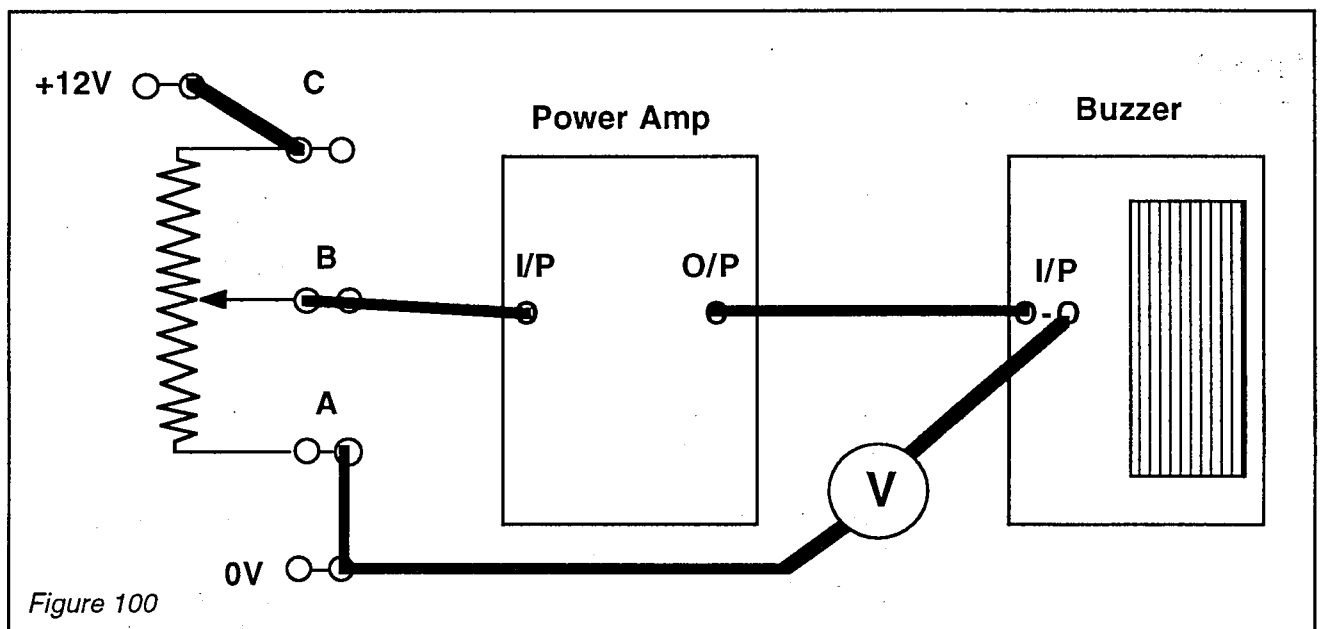

Figure 100
- Connect the circuit as shown in Fig 100 and set the control of the 10 k Ω resistor for zero output voltage (slider to left).